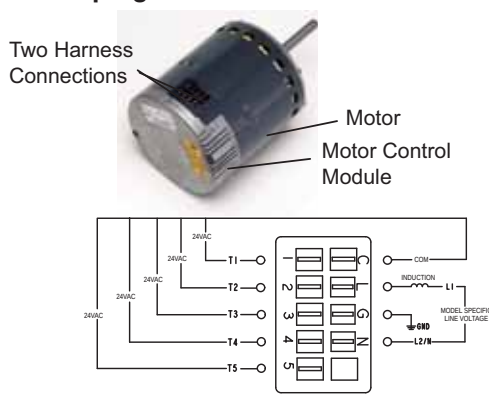

Figure 9.
- 3 - Unplug the two harnesses from the motor control module. See Figure 9.